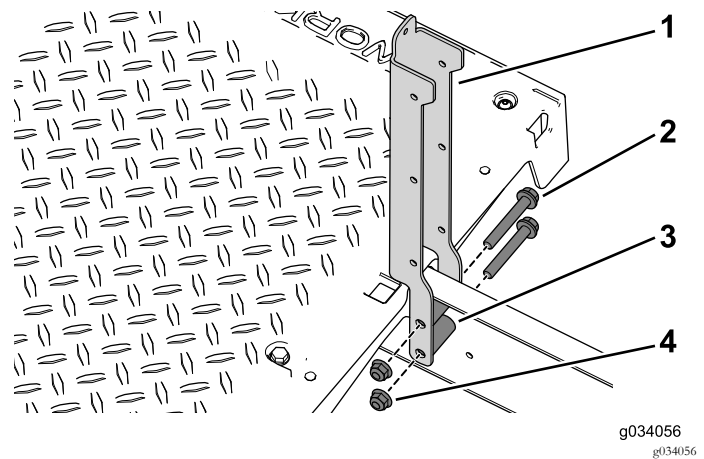

Figure 39
3. Use the 4 flange bolts (3/8 x 2-1/2 inches), spacers, and flange nuts to secure the left and right seat supports to the machine (Figure 39).